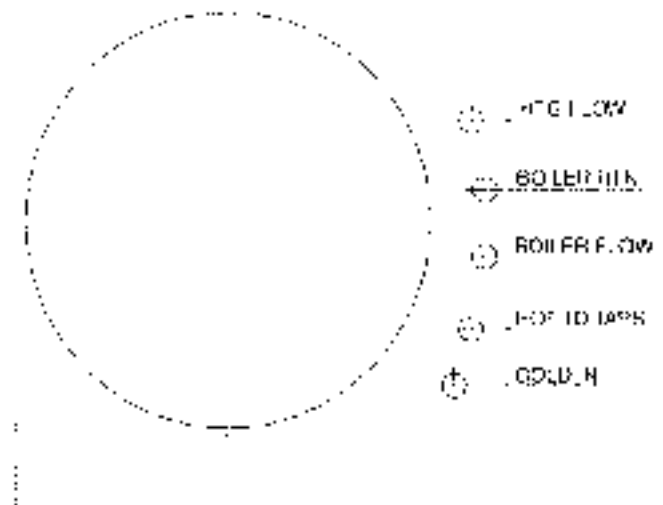

Figure 3.1 Typical arrangement of pipework in cylindrical cupboard
1. Make all water connections in accordance with the labelling on the thermal store and the associated pipework as shown in Figure 3.1.
4. Decide at what stage in your installation work you are going to fit the BoilerMate III. We would suggest that the BoilerMate III should be fitted first and the pipes run from it to the boiler, radiators and domestic hot water supply system subsequently in that order. If the BoilerMate III is installed early in the construction process ensure it is adequately protected or removed and refitted later. If it is decided to install the BoilerMate later in the construction process, the first fix pipework should enter the cylinder cupboard as shown in Figure 3.1.